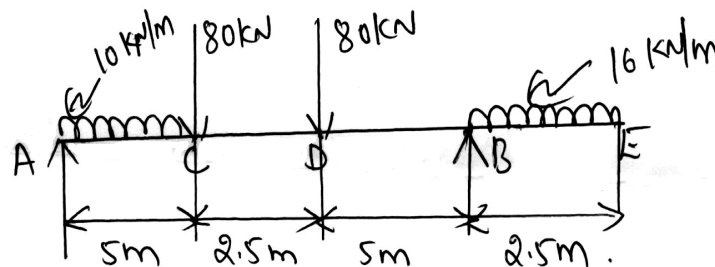

Fig Q6(b)
- b. Draw shear force and bending moment diagram for a beam shown in the Fig Q6(b). Locate point of inflexion if any